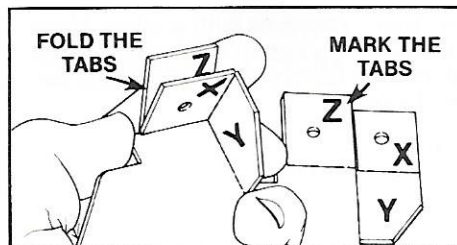

Figure 3. Folding the tabs for the front side of the inner guard.
- b. Mark the tabs of one of the deflectors (3) with a grease pencil. (See Figure 3.) Bend the tabs back and forth a couple